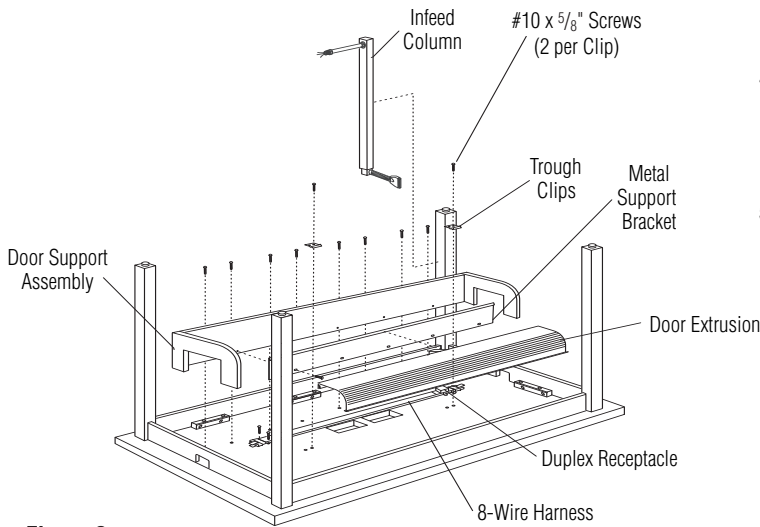

Figure 6
1. With table upside down, attach the power entry column to the inside of the leg closest to the power source (Figure 6). When a row of tables feed from the same power source, the first table is the only one that requires the power entry column.
2. Position the wood door support assembly so that its end slot is centered with the opening in the table apron (Figure 6).